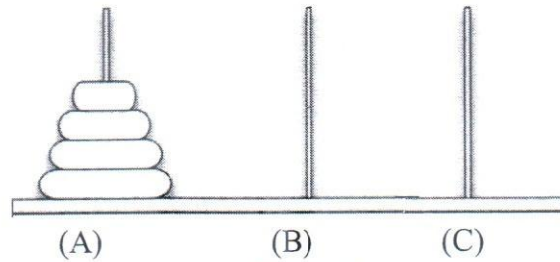

Figure 1
2. (a) The story: (Figure 1) (16)
- Need to move stack to Third (C) spike (at which point universe ends)